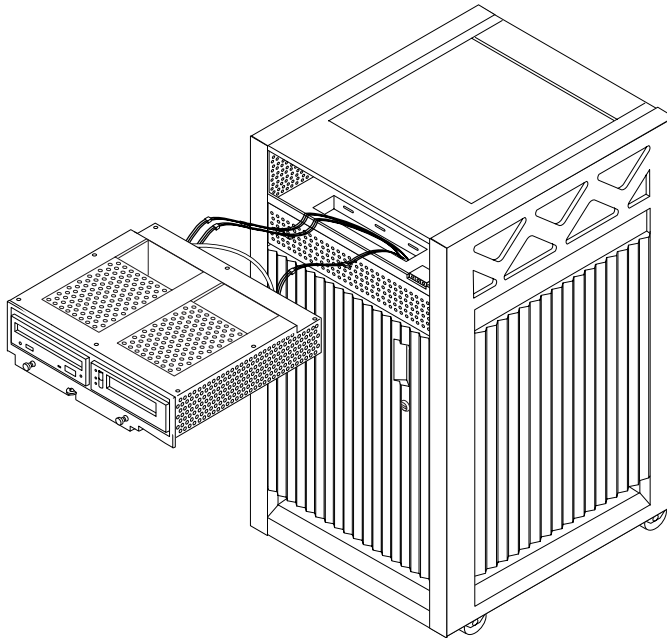

FIGURE 12-2 Removing the Media Tray
3. **Insert a screwdriver or similar instrument in the notch at the bottom center of the tray. Using the screwdriver, slightly pull out the tray (FIGURE 12-2).**